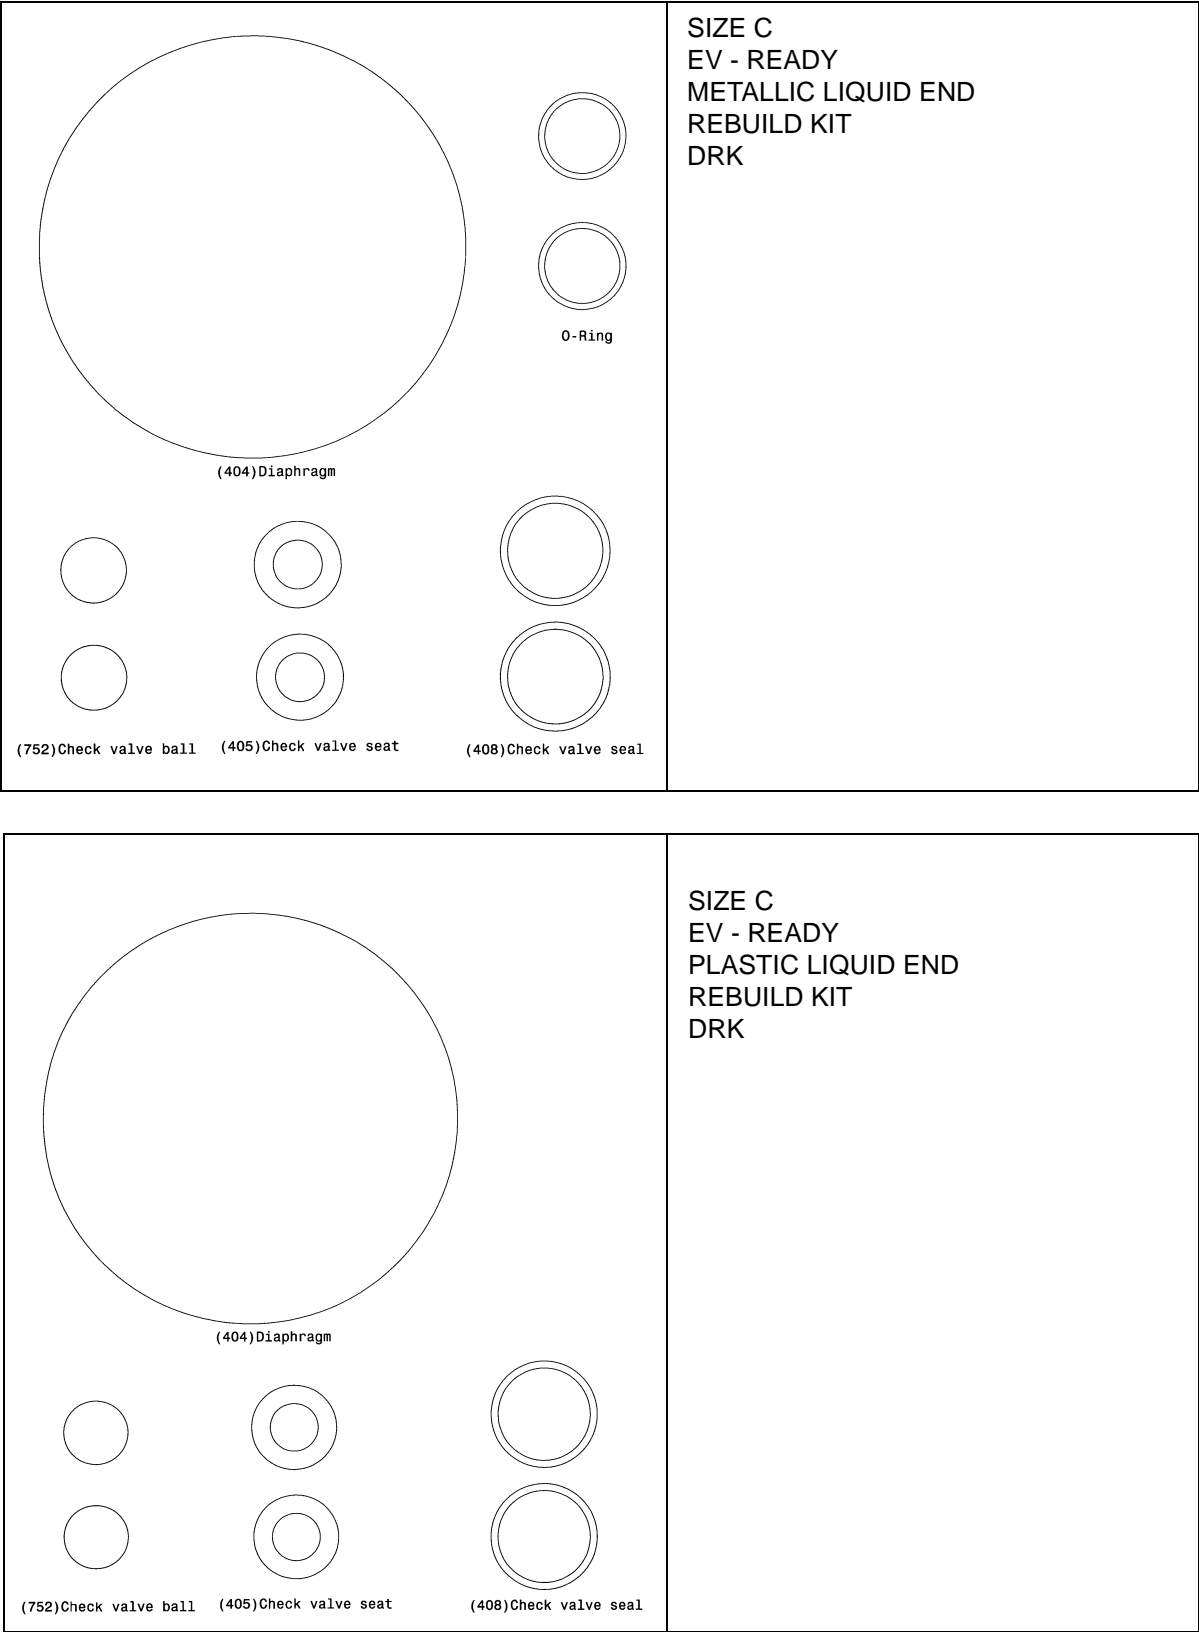

Figure 50. Metallic/Plastic Rebuild Kit, Size C.
6.16 METALLIC/PLASTIC REBUILD KITS, SIZE C (FIGURE 50)